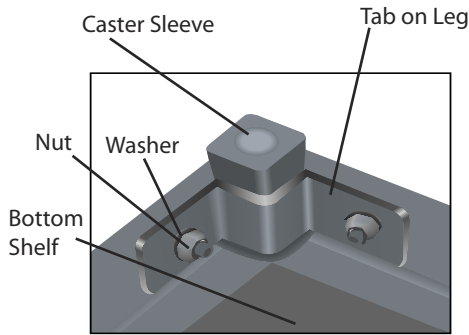
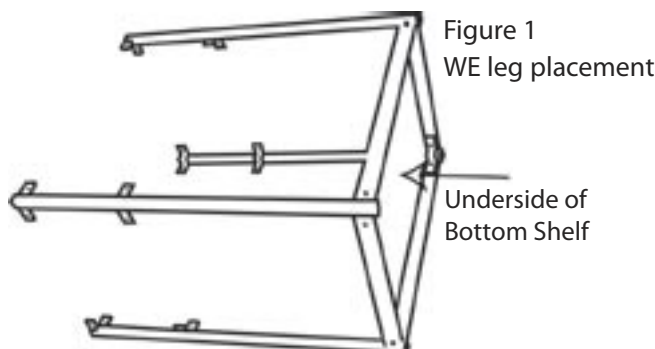

Figure 3
Figure 1
2. Place two matching legs on the ground as shown in figure 1. There must be one tab flat to the floor and one upwards, TABS ON THE FLOOR ARE POINTED TOWARDS EACH OTHER (see figure 1 & 2).
3. Fit the bottom shelf (WIDER side of shelf) over the tabs next to the caster sleeves (see figure 3) making sure that the tabs are fitted underneath the shelf (see figure 1 & 3).